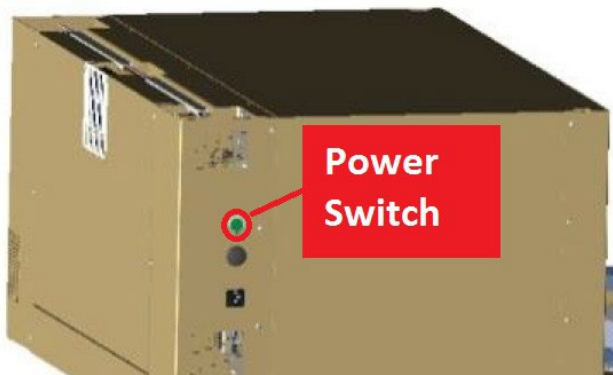

Figure 22. Multitron “Standard” Power Switch
- b. Power OFF the Multitron incubator using the power switch on the left side of the unit. Refer **Figure 22**.